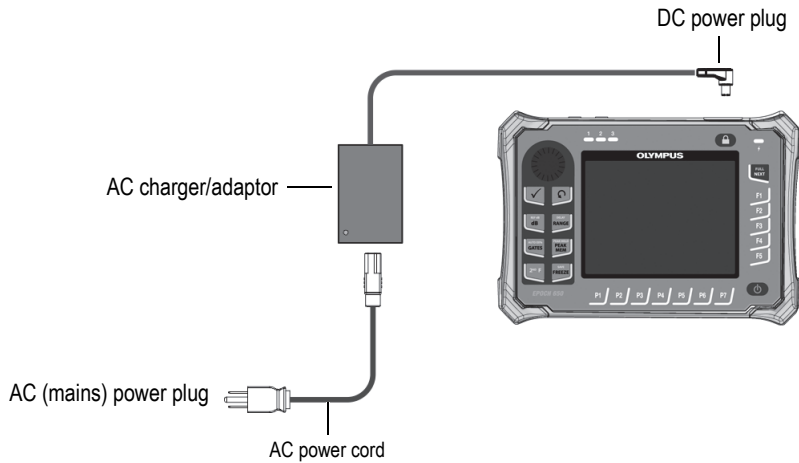

Figure 2-2 Connecting the charger/adaptor
1. Connect the power cord to the charger/adaptor unit and to an appropriate power outlet (see Figure 2-2 on page 58).